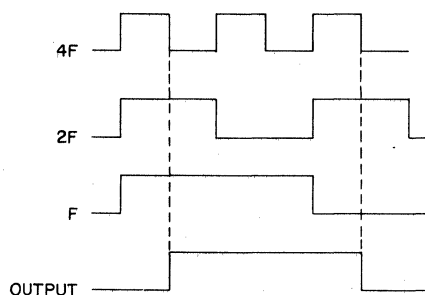

Figure 11-1. Frequency Lock Reference Frequency (804875)
The frequency detector (U12) is used during normal operation for primarily three purposes; (1) start-up time (2) tape speed change and (3) fast tape. To do this, a frequency lock reference circuit processes three signals from the oscillator reference to develop a slightly offset reference frequency. The frequency lock reference circuit accepts three inputs from the divide-by-four circuit with timing relations as shown in the figure 11-1. The output, which is applied to the mode select switch at U9-11, lags the reference by nominally 1/8 time period. This allows the frequency detector to operate at an optimum point.